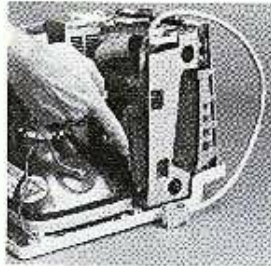

Figure 3-14
- a. Plug the host connector card into the main logic board as shown on Figure 3-14. Place the card between the Macintosh frame and the support bracket with the card's chips facing the inside of the Macintosh.